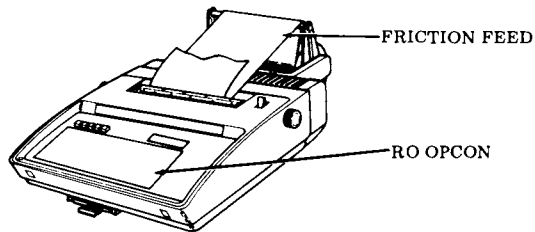

Fig 2.—RO Friction Feed
2.03 Various 43 terminal arrangements are also available without a directly connected telephone with either friction or sprocket feed paper handling as follows (See Fig. 2).
- Receive Only (RO) terminals with either an internal data set, TAU, TAU1, or no internal data unit.